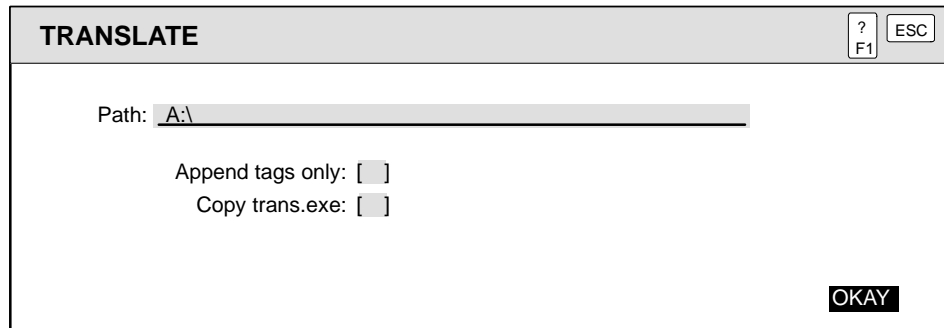

Figure 8-11 Offline Tag Translation to TISTAR without APT
2. Press **L** or use the **OPTs** icon to select **Translate**. Figure 8-11 shows an example dialog box.